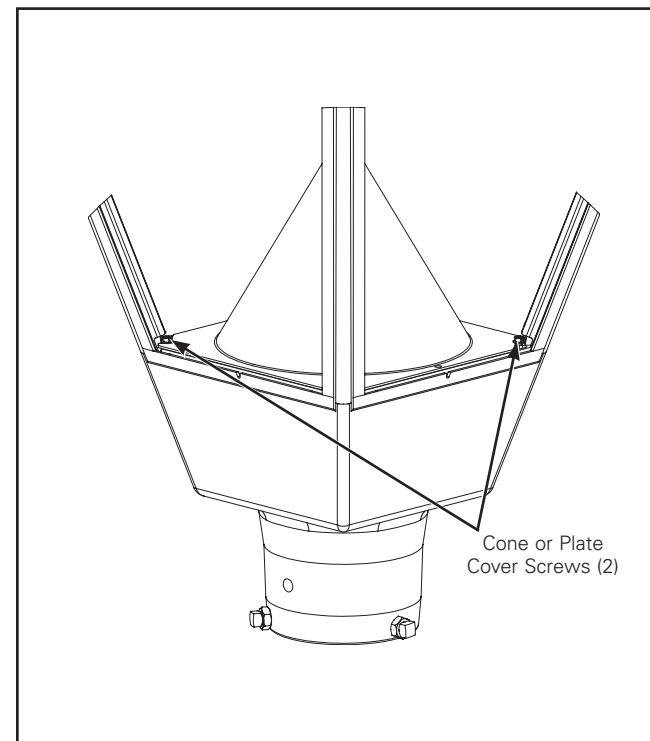
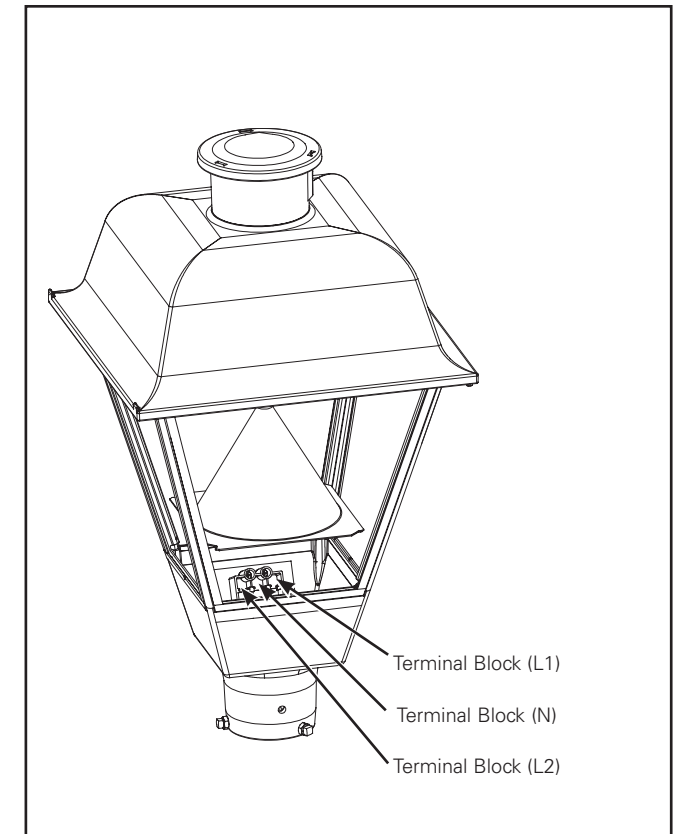

Figure 2.
Figure 3.
Standard Open Fixture Installation (Figure 2. and Figure 3.)
1. Unscrew two screws using 1/4" driver from cover plate or cone located at fixture base. (Figure 2.) Remove plate or cone cover to gain access to the wiring compartment.
3. Connect service leads to the appropriate position with the terminal block. (Figure 3.)
4. Unscrew two screws using 1/4" driver from cover plate at fixture base. (Figure 2.) Remove plate cover to gain access to the wiring compartment.
6. Connect service leads to the appropriate position with the terminal block. (Figure 3.)
Installation standard pour luminaire ouvert (figure 2 et figure 3)**Outils requis**
- À l'aide du tournevis de 1/4 po, dévissez deux vis de la plaque ou du cône situés à la base du luminaire (figure 2). Retirez la plaque ou le cône pour accéder au compartiment de câblage.